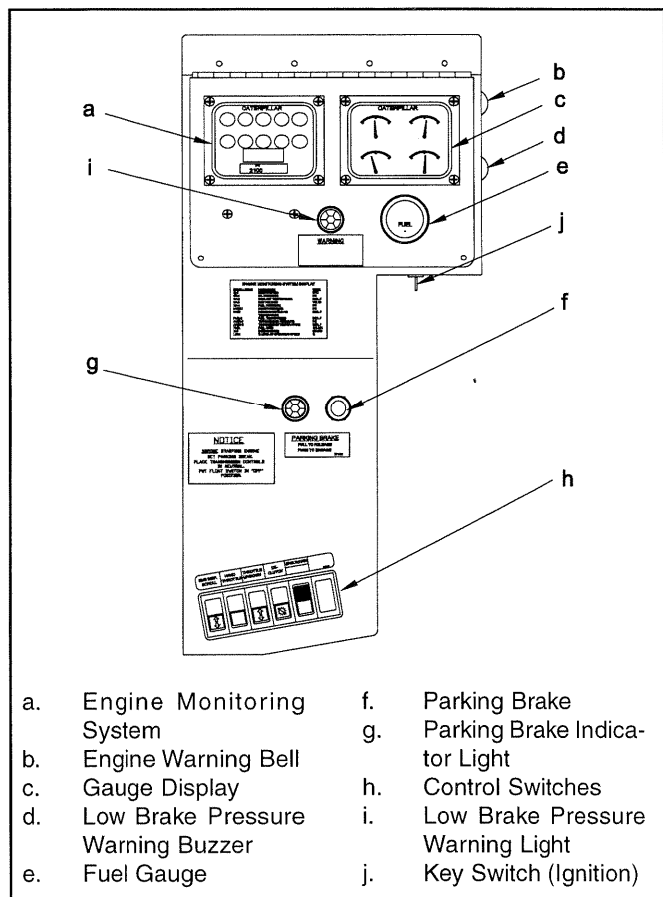
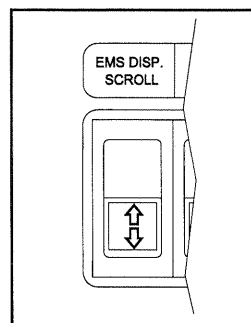

Figure 3-2: Instrument Panel
Figure 3-3: EMS Switch
1. Instrument Panel (Refer to Figure 3-2)
Only one parameter can be displayed at one time on the LCD. Depress and hold the EMS button (Refer to Figure 3-3) located on the control switch section of the instrument panel (Item h in Figure 3-2) to toggle between displayed parameters.